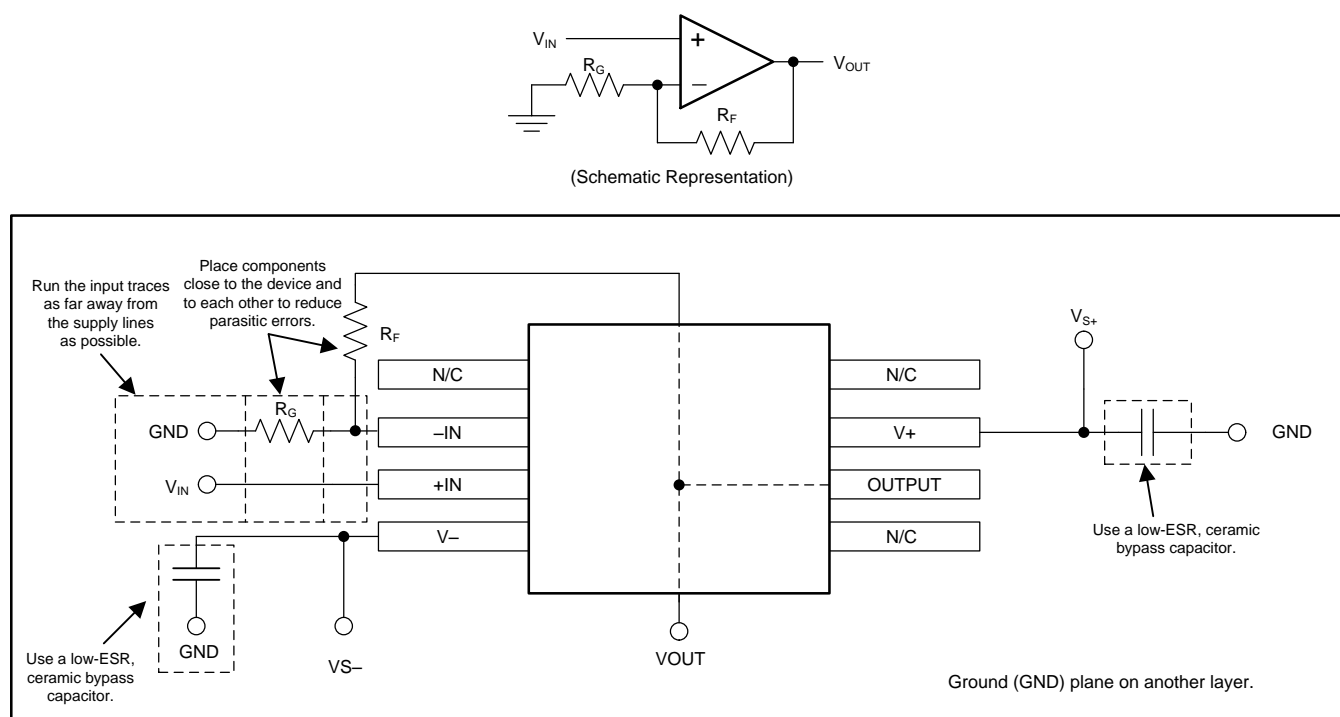

Figure 33. Operational Amplifier Board Layout for Noninverting Configuration
- Place the external components as close to the device as possible. Keep R_F and R_G close to the inverting input to minimize parasitic capacitance, as shown in Figure 33.